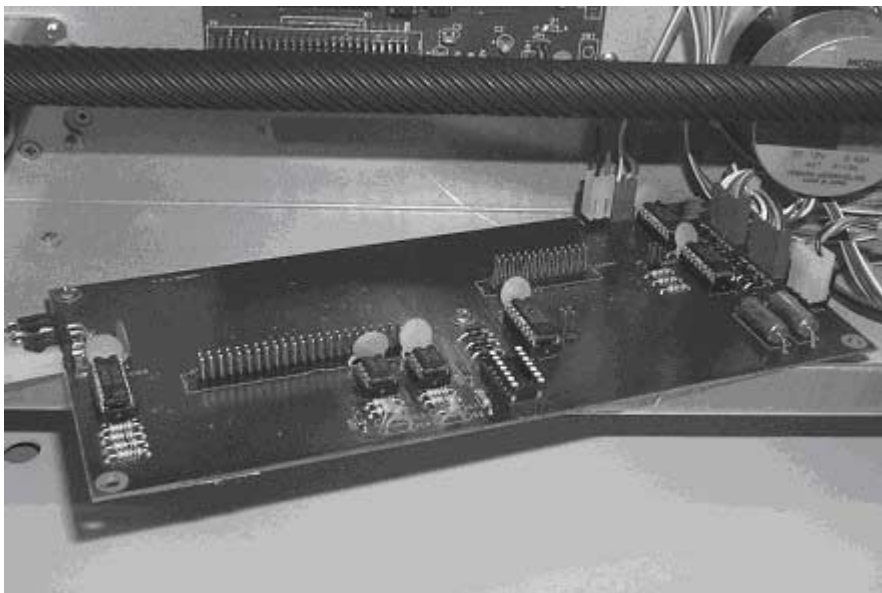

Figure 1-14. View of I/O board being removed.
11. The I/O board can now be removed. See Figure 1-14.